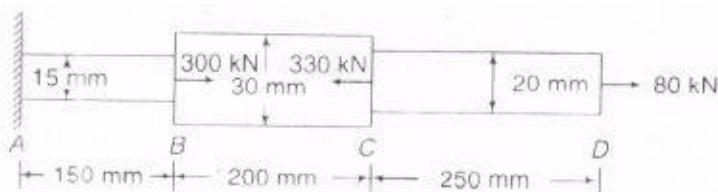

Fig. 1
- Q.I. B A steel circular bar has three segments as shown in Fig. 1. **Determine**